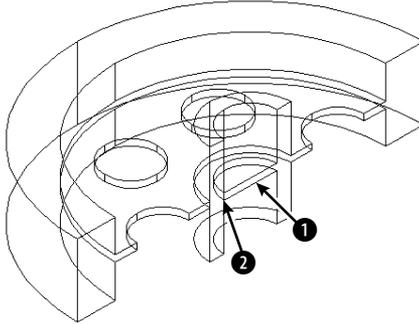

Figure 24-23: The solid after slicing and deleting one-half of it.
4. As mentioned earlier, the slicing reveals an error—the disk cuts through the central tube, as shown in Figure 24-23. To fix the error now, choose Zoom Realtime from the Standard toolbar and zoom in so the model takes up the entire screen.
5. Start the CIRCLE command. At the Specify center point for circle or [3P/2P/Ttr (tan tan radius)]: prompt, pick the midpoint at 1 in Figure 24-23. At the Specify radius of circle or [Diameter]: prompt, pick the endpoint at 2.